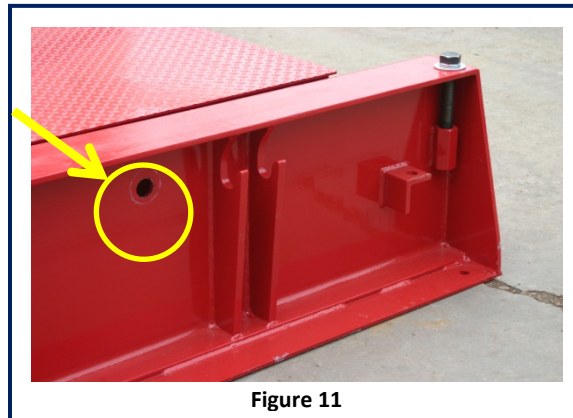

Figure 11
- Cover bulkhead shipping bolts original location with duct tape to prevent material from migrating into bulkhead. See Figure 11.